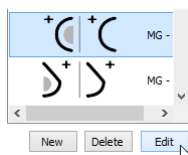

Figure 388 – Editing a selected hanging protocol
- Select the hanging protocol in the list of all protocols on the **Mammography workflow** tab of the **TomoCon options** dialog and click the **Edit** button (see Figure 388).